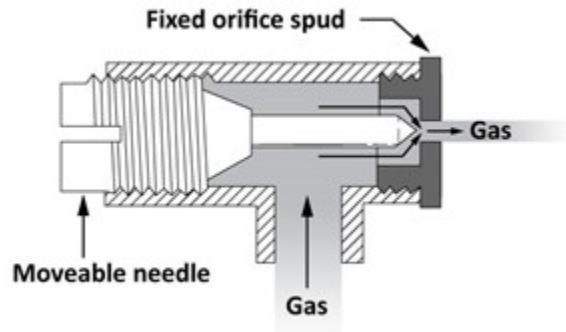

Figure 5 Adjustable orifice
- Figure 5 “Primary air control devices” by Camosun College is licensed under a CC BY 4.0 licence (<https://creativecommons.org/licenses/by/4.0/>).
Adjustable orifices are used on some nozzle-mix and pre-mix industrial burners. The needle inside the orifice spud is adjustable to increase or decrease the effective opening of the orifice. The gas flow rate can be altered from zero, with the needle tight against the orifice wall, or to the full flow rate, with the needle backed away from the orifice wall (Figure 5).